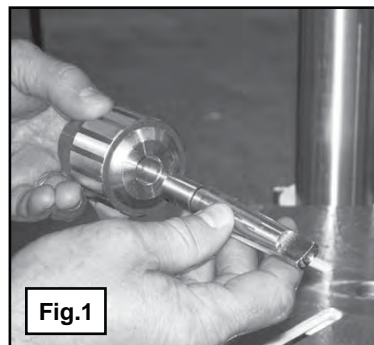

Fig.1
- Push the arbor onto the spindle (SEE FIG.1).